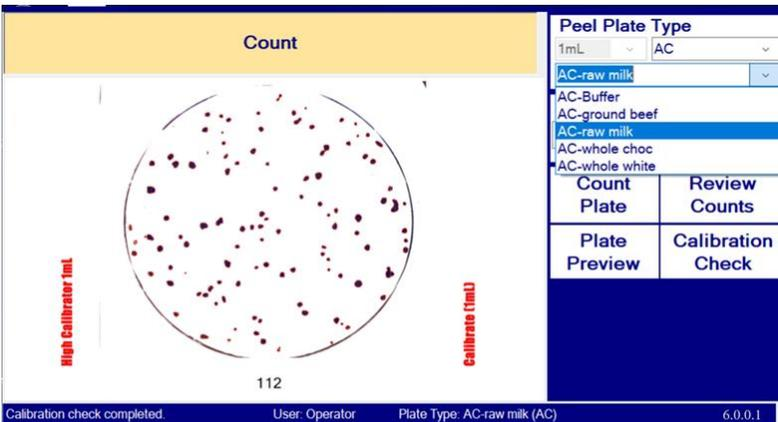

Figure 12B
3. Selecting the arrow in the bottom box provides a list of calibrated sample matrices available within the Peel Plate type selection see (Figure 12B)